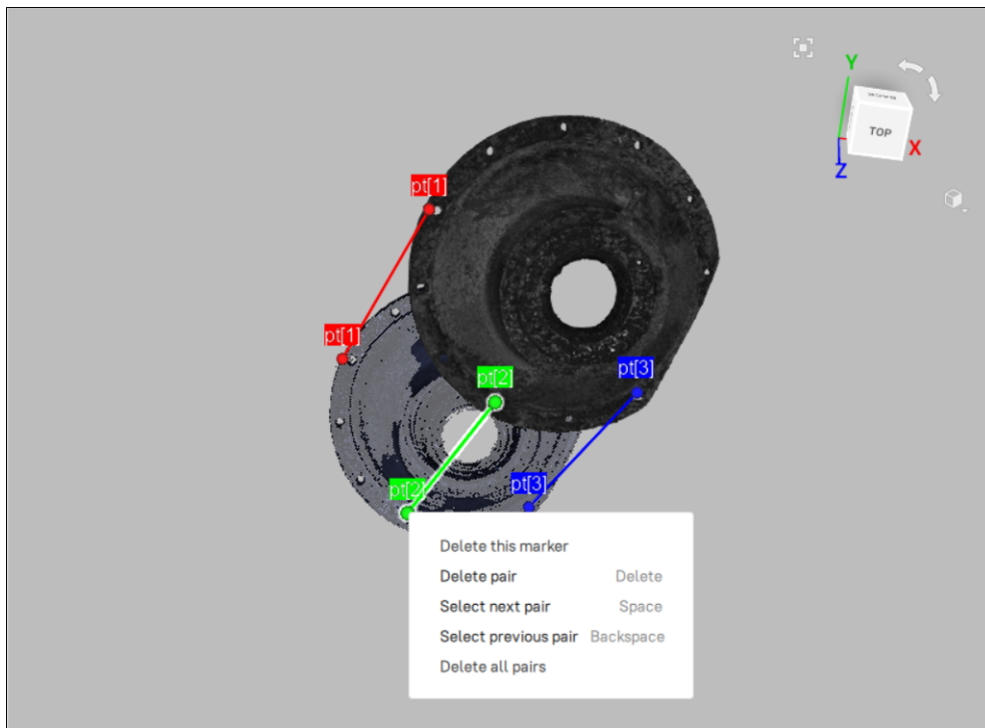
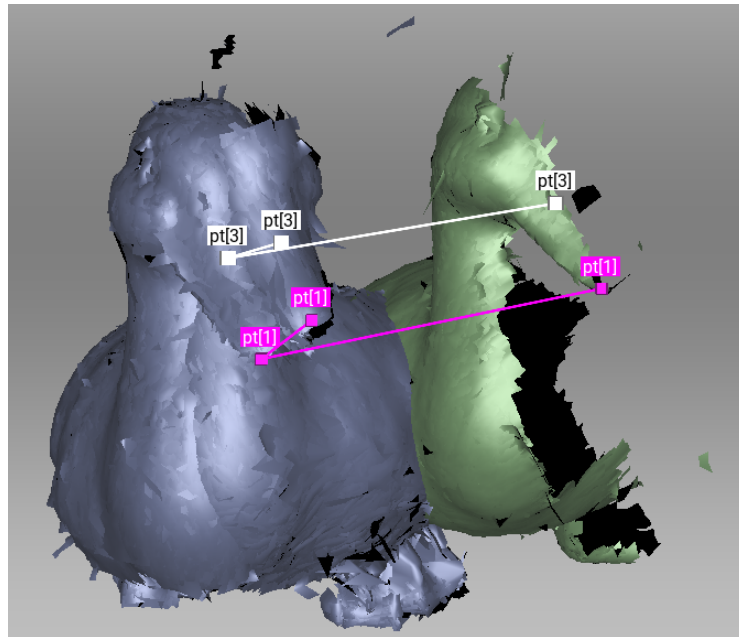

Figure 139: Creation of point pair.
Figure 144: Before alignment: two point-set added.
When specifying points in the *Best Fit* and *Nonrigid* types, the application automatically creates pairs. Having specified one pair, you can immediately create the next one. In the *Complex* type you must confirm set creation by hitting `Space` or by clicking *New set* from the left panel, because the set may comprise multiple points (see Figure 139 and Figure 144).
4. Specify several point pairs (Figure 139), keeping in mind the recommendations from Specifying Point Sets \(Markers\) and Editing their Positions.
3. Specify one or more point sets on the scan surface (see Figure 144), keeping in mind the recommendations in Specifying Point Sets \(Markers\) and Editing their Positions.